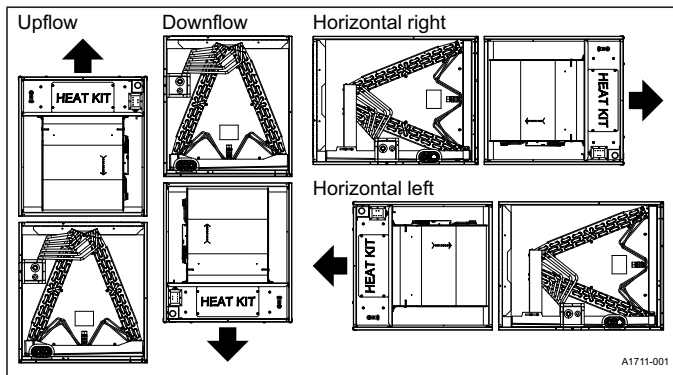

Figure 3: Typical installation
These air handler units are ready to install in any position shown in **Figure 3**. Some XAH model coils require a section of duct between the indoor coil and the modular air handler. See *Horizontal right applications*.
3. Position the air handler casing over the appropriate coil opening (depending on configuration). See **Figure 3**.